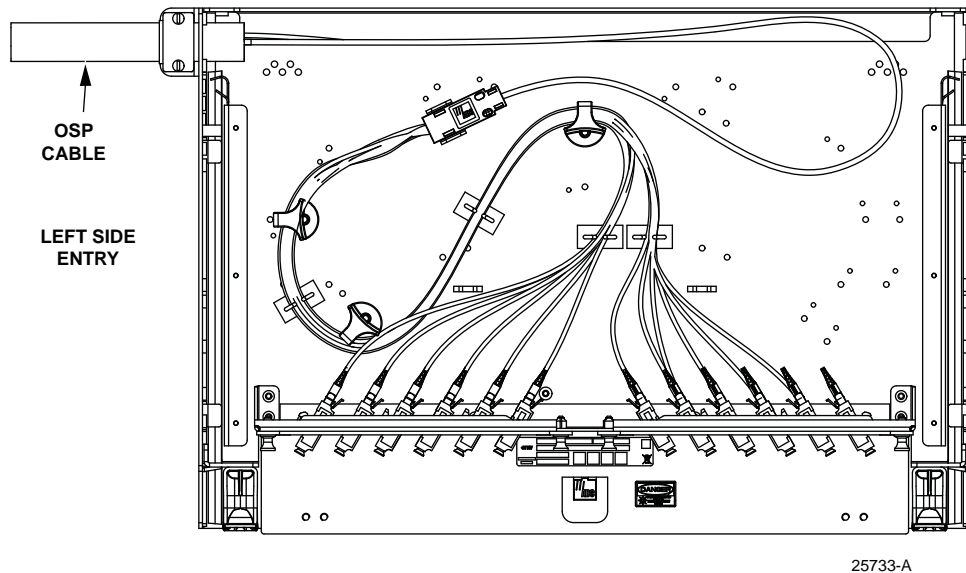
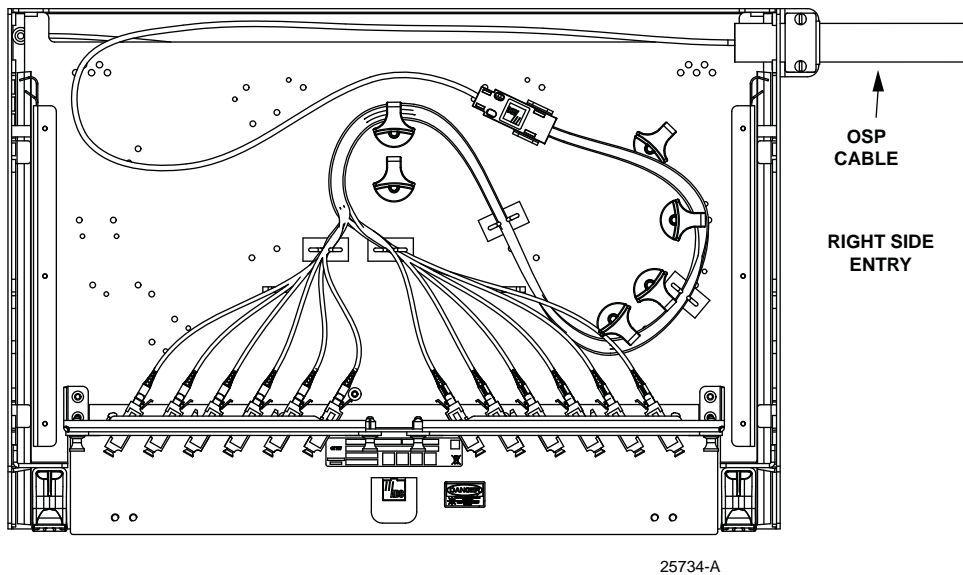

Figure 21. Routing OSP Cable, Right Side Entry (Adapter Packs)
Figure 22. Routing OSP Cable, Left Side Entry (MPO Cassettes)
5. Route the cable within the panel as shown in Figure 21 and Figure 22.